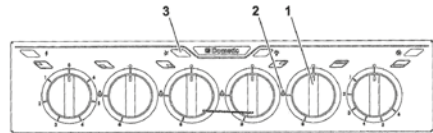

Fig 8
- To generate the flame, fully press down the control knob (Fig. 8 1) and turn it to the large flame position (Fig. 8 2).
- Simultaneously push down the electronic ignition button (Fig. 8 3). Once the flame has been generated, press the knob down for a few seconds so that the flame remains lit.
control knob (Fig. 8 1) and turn it to the large flame position (Fig. 8 2).
- To adjust the flame, turn the knob to the desired position (Fig. 8 1).